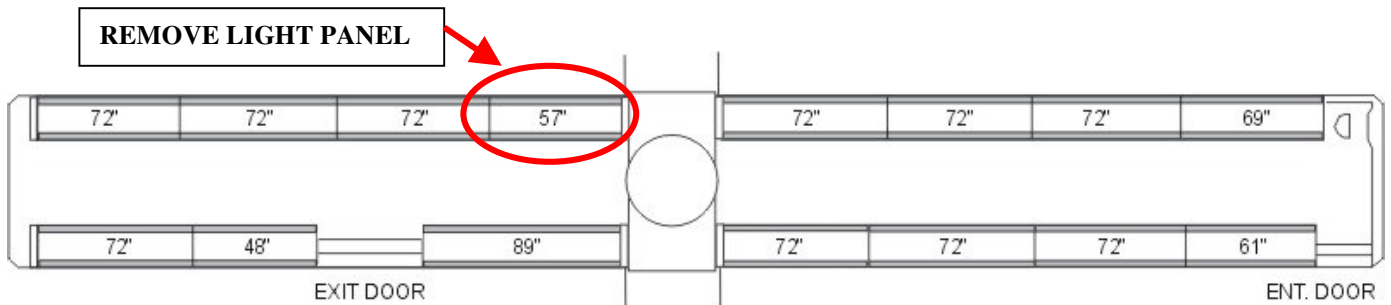

Figure 1 – Light Panel Removal Location
2. Remove the streetside light panel immediately behind the artic joint as shown in Figure 1. Store hardware for reinstallation.